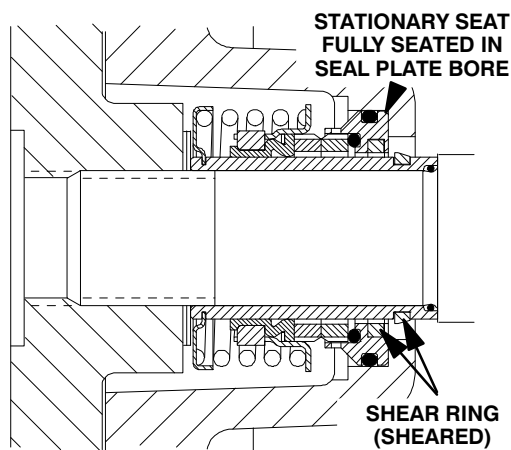

**Figure 9. Seal Partially Installed**
Clean and inspect the impeller as described in **Impeller Installation and Adjustment**. Install the full set of impeller shims (2) provided with the seal and screw the impeller onto the shaft until it is seated against the seal (see Figure 9).